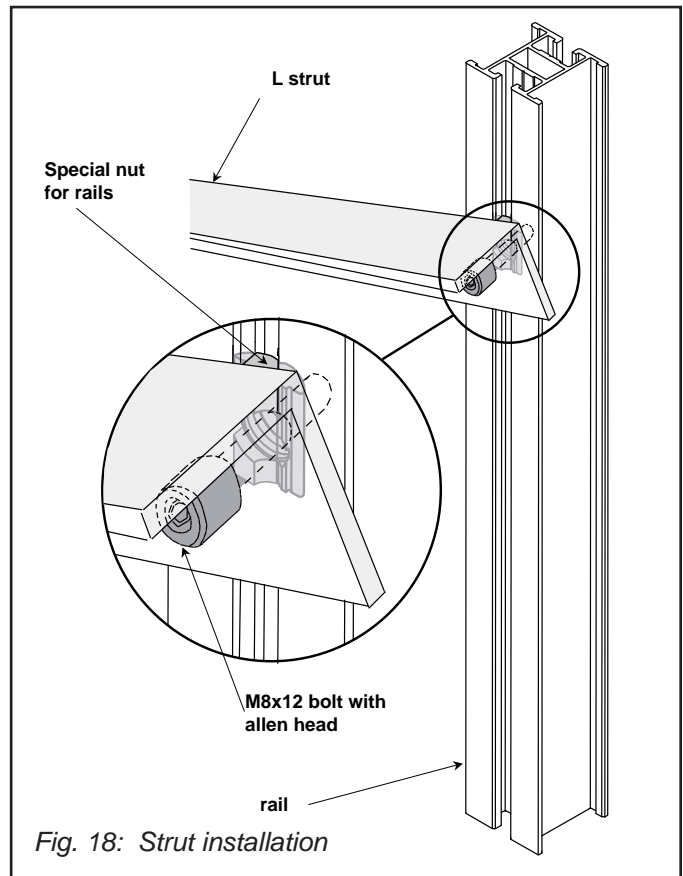

Fig. 18: Strut installation
- Fix the L-support of the triangle to the base rail using screws, serrated lock washers and nuts for rails (Fig. 18) and tighten the connections.
- Install the strut between the two triangular supports (Fig. 18). Following Fig. 18, insert special M8 nuts into the triangle support rail. Then lay the strut onto the rails and fix it with M8x12 bolts with washers (Fig. 18).